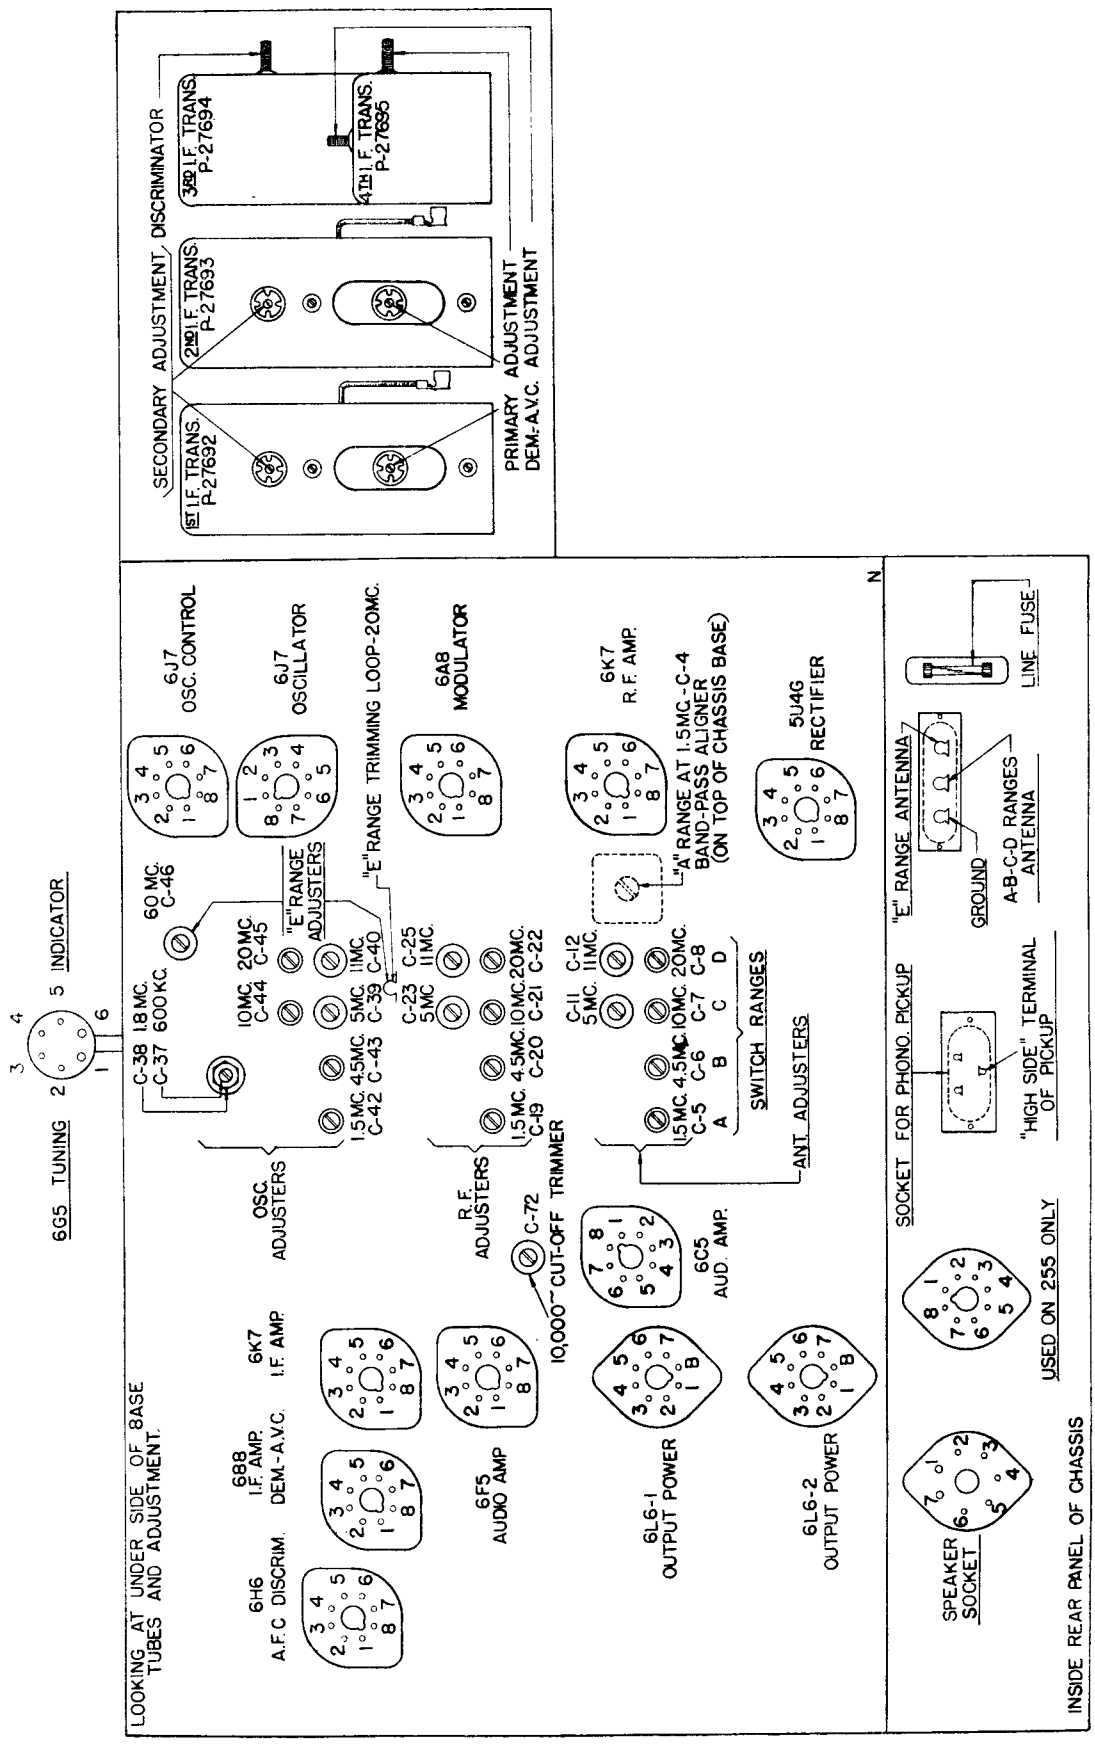

Fig. 1. Terminal Layout for Voltage Measurement Chart and Location of the Various Aligning Adjustments.
The various values of voltages listed in the following table are obtained by measuring between the various tube socket contacts and the chassis base, with the tubes in their respective sockets. The receiver is, therefore, in operation when the measurements are made. Figure 1, shows the terminal layout of the sockets with the proper terminal numbers.
tions. Figure 1, shows the location of all the aligning capacitors or adjustments for this receiver. It will not be necessary to remove the chassis in this receiver from its cabinet in order to make any alignment adjustments. The alignment adjustments for the Intermediate Frequency circuits are accessible from the rear of the receiver, and the adjustments for the Radio Frequency circuits are accessible through the apertures located in the bottom metal base plate of the chassis. These apertures are easily accessible through the bottom of the cabinet shelf. Never align any of these receivers without having the metal base plate fastened to the chassis base.
3. Now noting from Figure 1, the alignment adjustments for the First, Second, Third, and Fourth I. F. Transformers, align the I. F. circuits in the following manner: